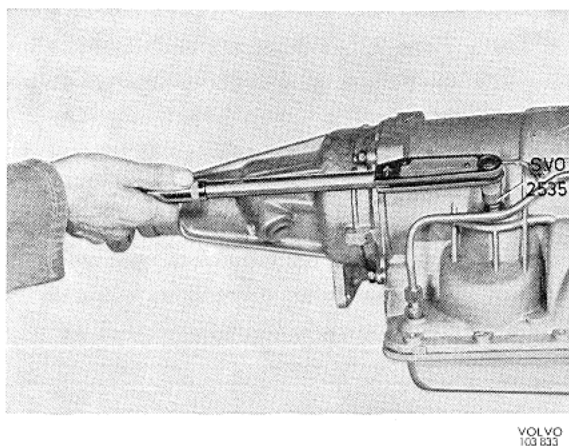

Fig. 33. Adjusting rear brake band
2. Use the special socket SVO 2535 and connect the torque wrench to the adjusting screw, see Fig. 33. Tighten the screw to 10 lb.ft (1.4 kgm). Back off the adjusting screw one turn.